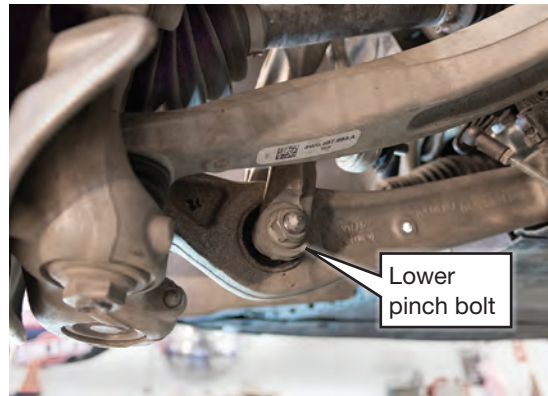

fig. D.3
5. Remove the lower pinch bolt on the fork mount (Fig. D.3).